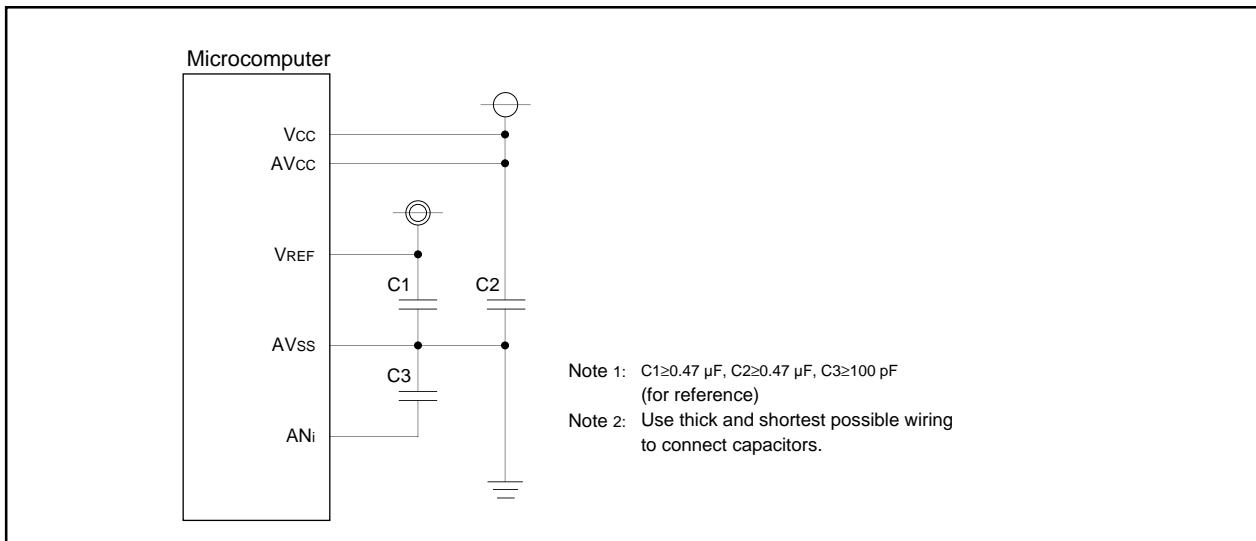

Figure 2.9.17. Use of capacitors to reduce noise
- (1) Write to each bit (except bit 6) of AD control register 0, to each bit of AD control register 1, and to bit 0 of AD control register 2 when A/D conversion is stopped (before a trigger occurs). In particular, when the Vref connection bit is changed from 0 to 1, start A/D conversion after an elapse of 1 μ s or longer.
- (2) To reduce conversion error due to noise, connect a voltage to the AVcc pin and to the Vref pin from an independent source. It is recommended to connect a capacitor between the AVss pin and the AVcc pin, between the AVss pin and the Vref pin, and between the AVss pin and the analog input pin (ANi). Figure 2.9.17 shows the an example of connecting the capacitors to these pins.